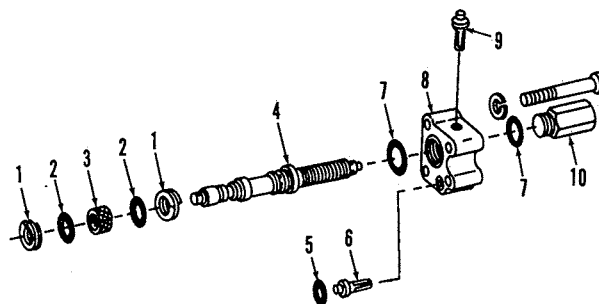

Fig. 256—Exploded view of load control valve used on Models 4650 and 4850.
On Models 4650 and 4850, remove load control valve housing (8—Fig. 256) from rockshaft control valve. Withdraw load control valve (4) from rockshaft valve housing.